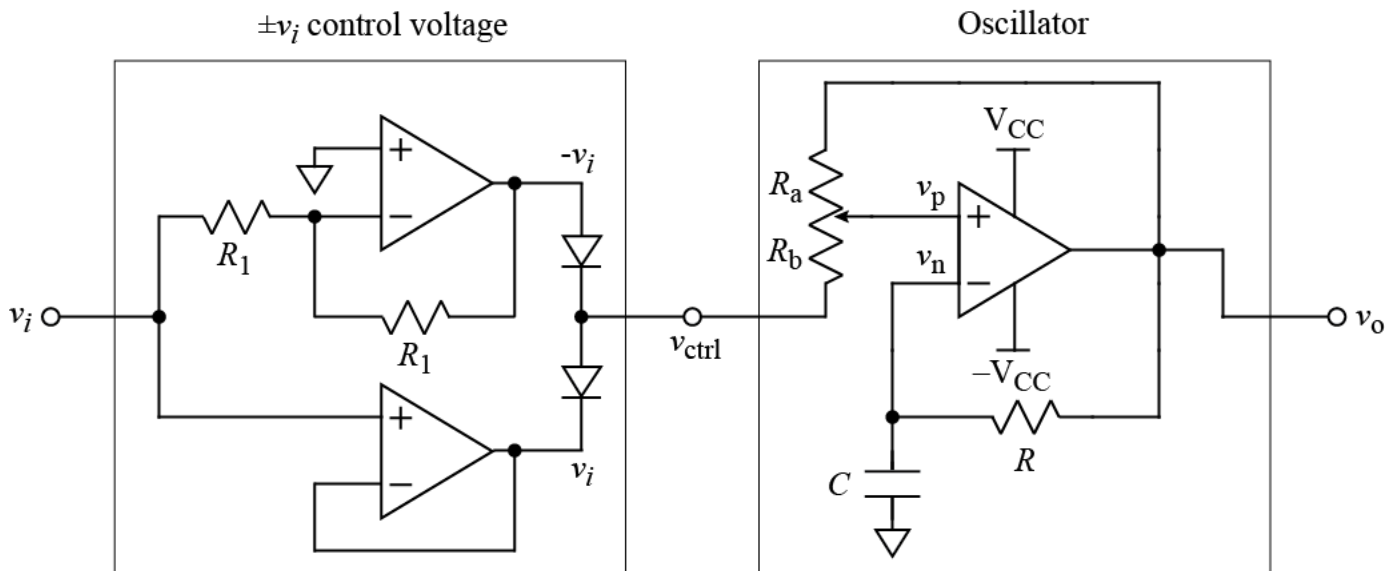

Fig. 1. Voltage-controlled Oscillator.
**CIRCUIT:** The circuit shown below in Fig. 1 produces a rectangular wave with frequency controlled by potentiometer,  $R_a$ ,  $R_b$ . The duty cycle varies with  $v_{ctrl}$ . For an op-amp such as the LM324 with asymmetric rail voltages, the duty cycle will be greater than 50% when the control voltage is at reference. A control voltage halfway between the rail voltages, however, does produce a 50% duty cycle waveform.